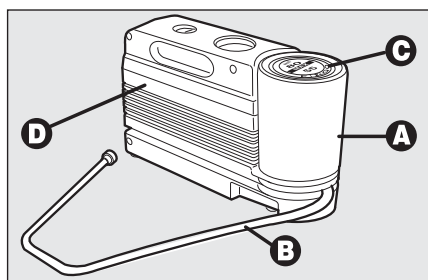

fig. 14
The kit **fig. 14** is placed in the boot. In this container are also housed the screw-driver and the tow hitch.
- ☐ a bottle **A-fig. 14** containing the sealer, fitted with: